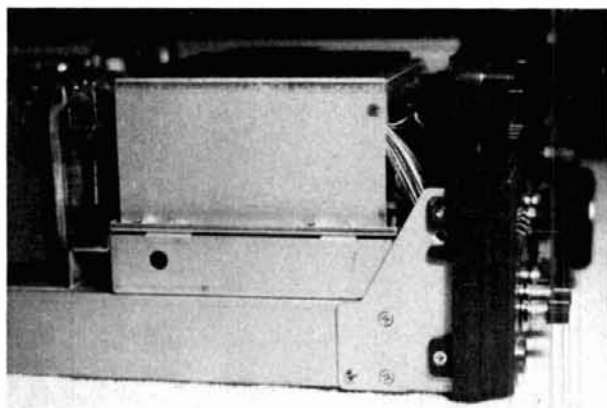

fig. 1. Front panel mounting bracket screws.
Two of the mods require access to the back of the front panel. This is easily accomplished thanks to the cabinet's sensible design. On each side of the 930 you'll find the front panel mounting brackets. There are two flathead screws and one roundhead screw in each bracket. Refer to **fig. 1** for their locations. Move the 930 toward the front of your work table so that a few inches of the rig hangs over the edge. The panel will tilt forward after (1) removal of the two flathead screws from each bracket and (2) careful loosening — *not removal* — of the roundhead screws. The panel may tilt on its own, so keep one hand on it while you